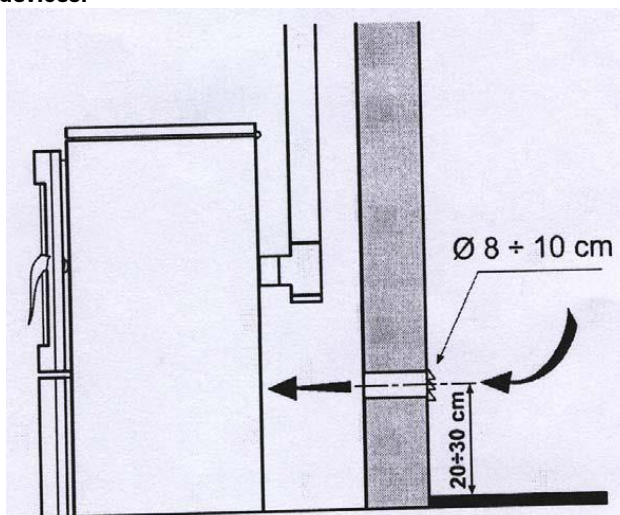

Figure 8. Minimum distances for the installation of the ventilation grid
3.5. THE INTAKE OF COMBUSTION AIR (Figure 8)